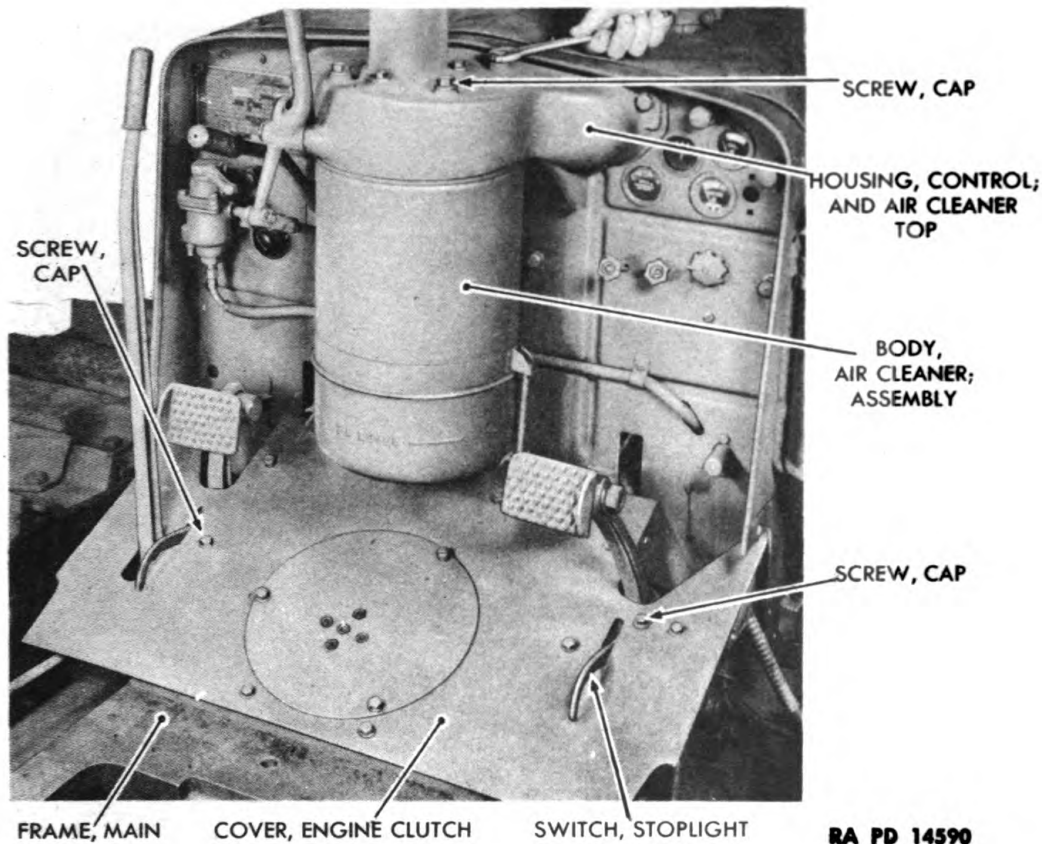

Figure 32 – Air Cleaner Body and Engine Clutch Cover Removal
(6) REMOVE AIR CLEANER BODY ASSEMBLY (fig. 32).
(7) REMOVE ENGINE CLUTCH COVER (fig. 32).